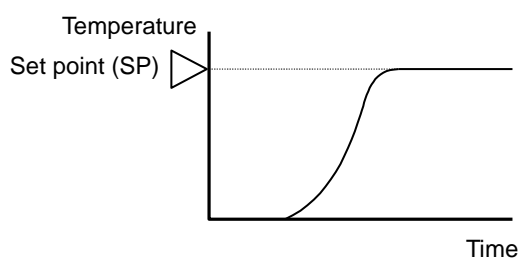
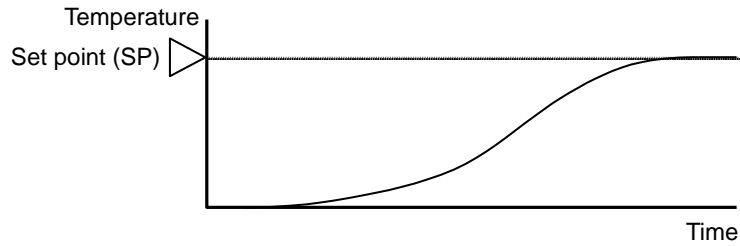
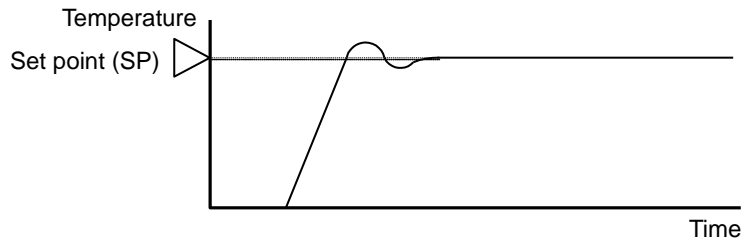

Figure 2. Optimal Temperature Control
Figure 3. Stable but slow temperature rise control
Figure 4. The temperature rises rapidly; however, the control stabilizes after overshoot and undershoot.
Figure 2 is regarded as an optimal temperature control result. Depending on the usage and objective, for some temperature control applications, suppression of overshoot is required even if the temperature rises very slowly as shown in Figure 3. For some temperature control applications, it is necessary to stabilize the temperature as quickly as possible by raising the temperature rapidly even if overshoot is generated as shown in Figure 4. In general, however, Figure 2 is regarded as an optimal temperature control. The PID module is designed to raise the process variable (PV) to the set point (SP) as quickly as possible in order to stabilize the process variable (PV) at the set point (SP) so as to perform the optimal temperature control. If the temperature fluctuates due to sudden disturbances, the PID module responds to the fluctuation with speedy response in the shortest possible time and performs quick control to stabilize the temperature.